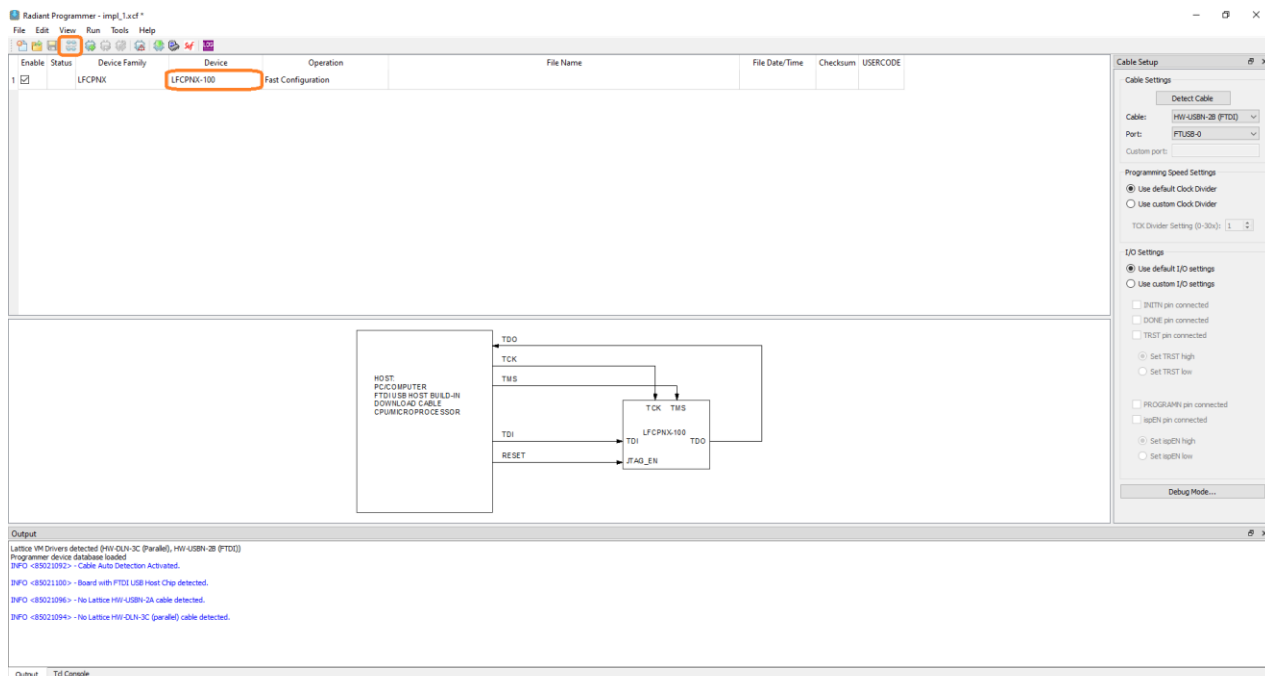

Figure 4.3. Radiant Programmer
4. Radiant Programmer opens (Figure 4.3). Click the **Scan Device** button, and choose **Device** as **LFCPNX-100**, as shown in Figure 4.3.